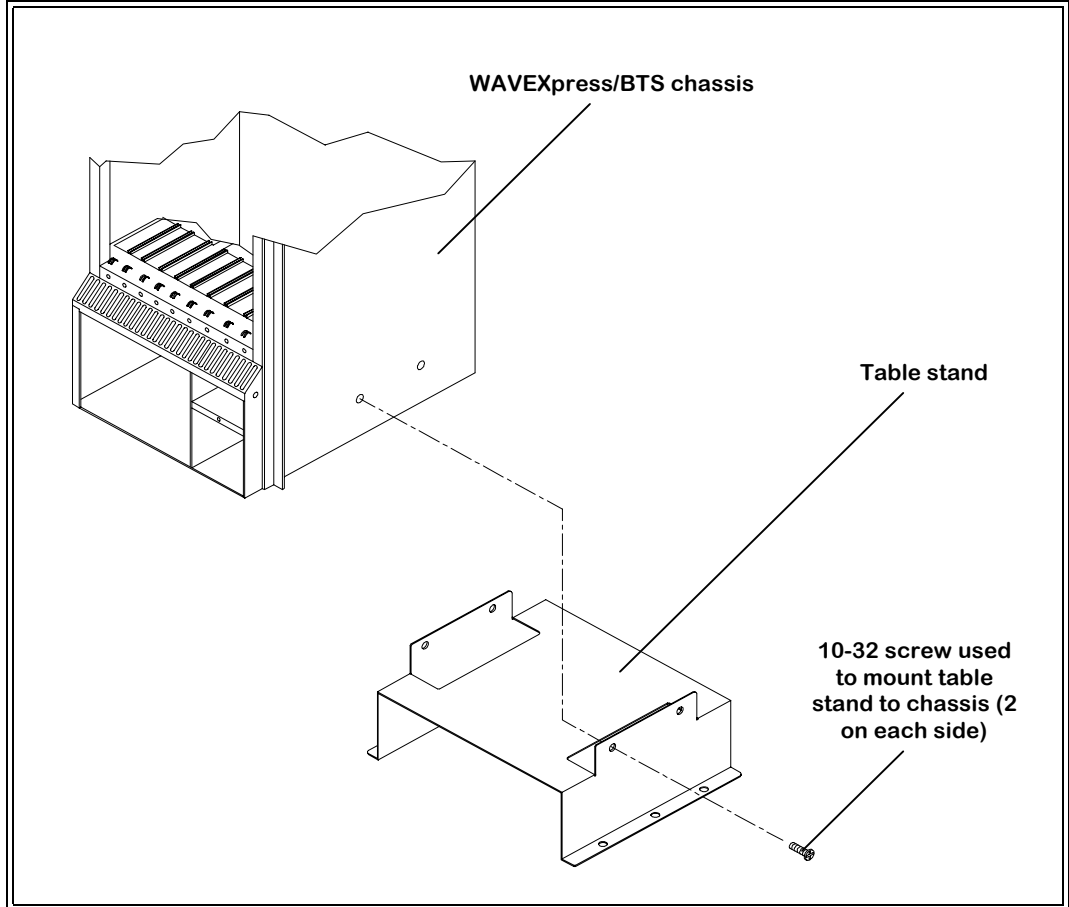

Figure 3-4: Placing the BTS in the table stand
- Step 3** Place the BTS on the stand, with the door of the BTS facing forwards, as shown in Figure 3-4 : "Placing the BTS in the table stand" on page 33.